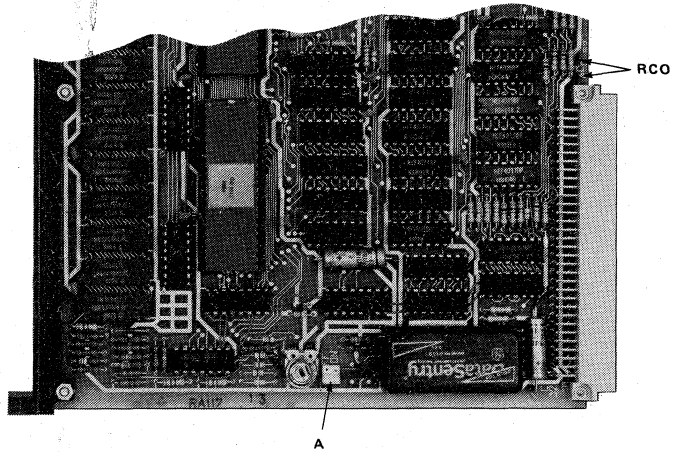

Fig. 3 Location of RCO points and switch (jumper A) of on-board battery.
1. At delivery of the central processor the on-board battery is switched off (jumper A, Figs 3 and 4, in off-position).